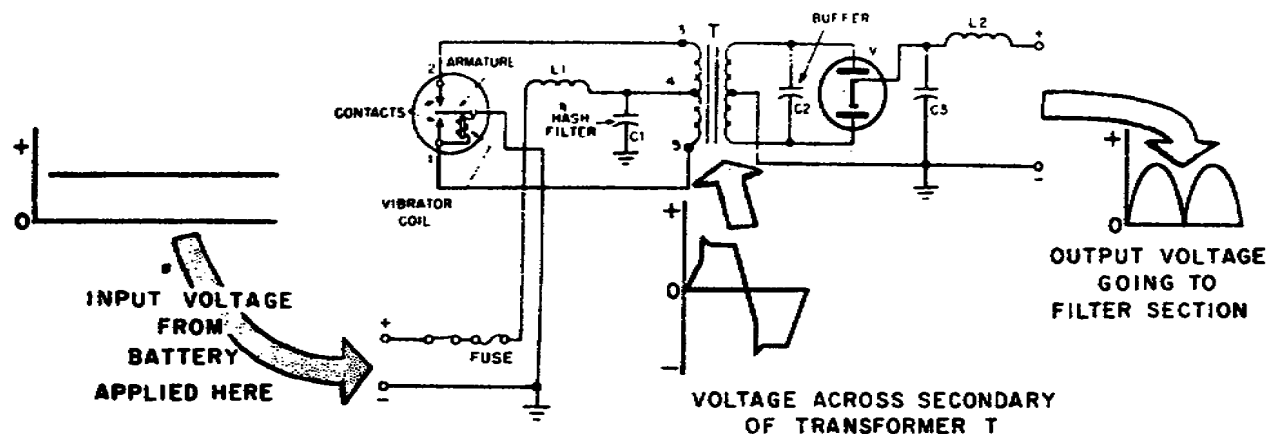

Figure 9. Schematic of vibrator power supply with waveshapes.
(6) Shorted filter capacitor. With few exceptions a shorted filter capacitor will cause the line-fuse to blow.
(7) Open bleeder resistor (voltage divider).
a. Vibrator-type power supplies are used most extensively with radio equipment mounted in vehicles. Figure 9 shows a basic vibrator circuit. Briefly, the circuit works this way.
(1) The low dc voltage (6, 12 or 24 volts) from the battery is changed to pulsating dc by the vibrator.
(2) This pulsating dc then induces an ac voltage in the secondary of transformer T.
(3) The ac voltage is then rectified by V1 and coupled to the filter section.
(4) The output of the filter is a relatively high dc voltage ready to furnish the necessary potentials for the radio set.